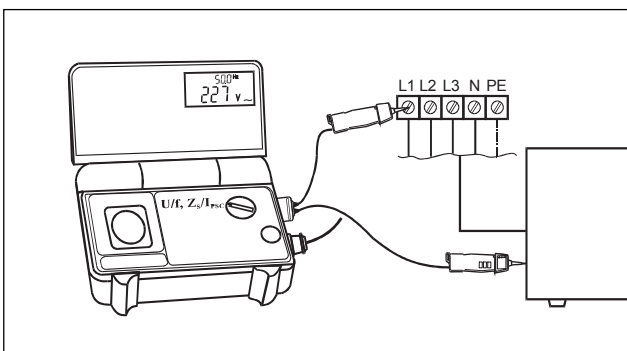

Fig. 6.10
- Connect COMMANDER 2 test probes to UUT (use measurement accessories, if required) (see Fig. 6.10). The measurement result for  $V/f$  will be displayed.